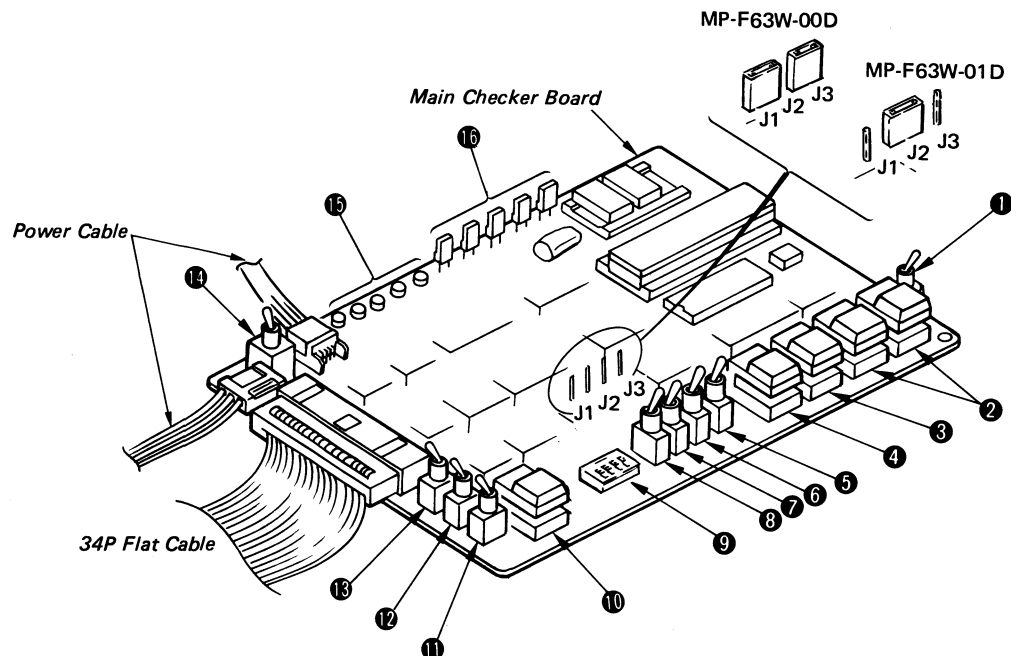

Fig. 2-1 MFD Function Checker Configuration
- (1) MFD Function Checker configuration (Refer to Fig.2-1)